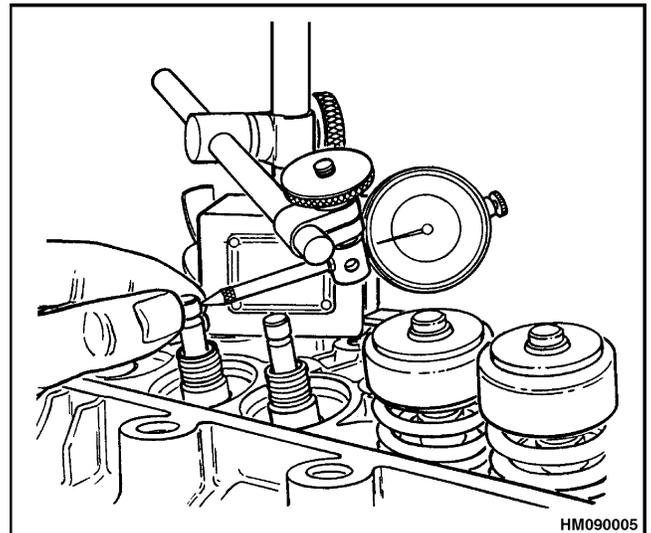

Figure 5. Valve Guide and Valve Clearance Check
- b. Another method of measuring the clearance of the valve stem in its valve guide is to use a dial indicator as shown in Figure 5. Put the dial indicator so that it can measure the side-to-side movement of the valve stem. Lower the valve away from its valve seat approximately 3 mm (0.1 in.). Move the valve stem from side to side and check the measurement on the dial indicator.